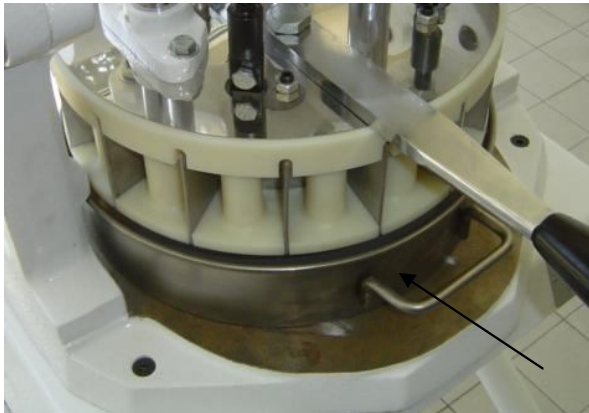

Figure 6
- Position the plate that collects the dough on top of the solid cast iron board, placing it perfectly under the press and on the back side of the table (figure 6)